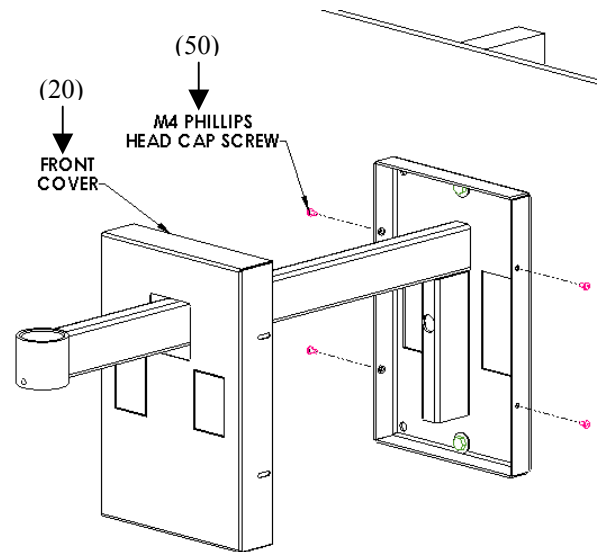

Figure 3. Attach Front Cover
2. Install the front cover (20) using four M4 8mm Phillips head cap screws (50). See Figure 3.